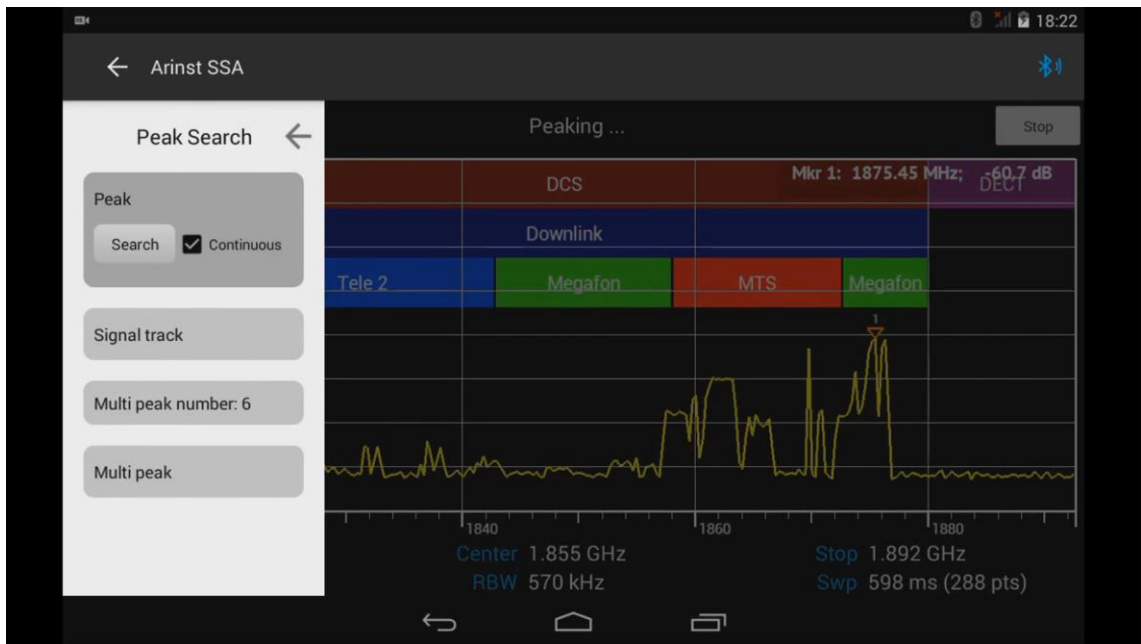

Figure 47 – Automatic tracking of the maximum signal value
8.8.3. If you need to track the level and frequency of the maximum signal value, turn on the option to cycle the search for the maximum signal value **Continuous**, as shown in Figure 47. In this case, the marker will automatically follow the maximum signal value.